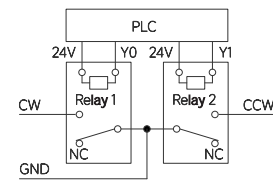

Figure4
- PLC/upper computer could control the motor start/stop, CW、CCW、GND could be connected with PLC by relays.---Figure 4